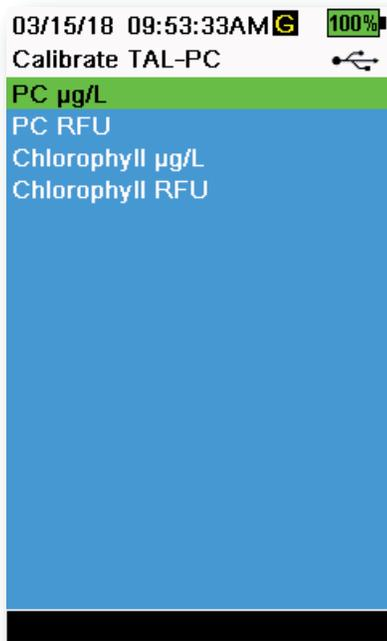
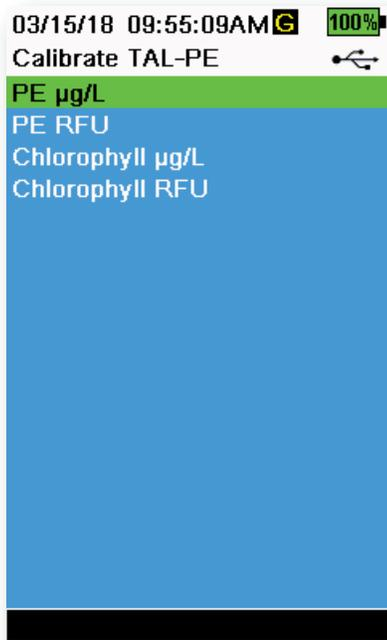

Figure 56 TAL-PC Calibration Options
Figure 57 TAL-PE Calibration Options
4. Select the channel and units to be calibrated. Options for the TAL-PC sensor are shown in Figure 56, while options for the TAL-PE sensor are shown in Figure 57.